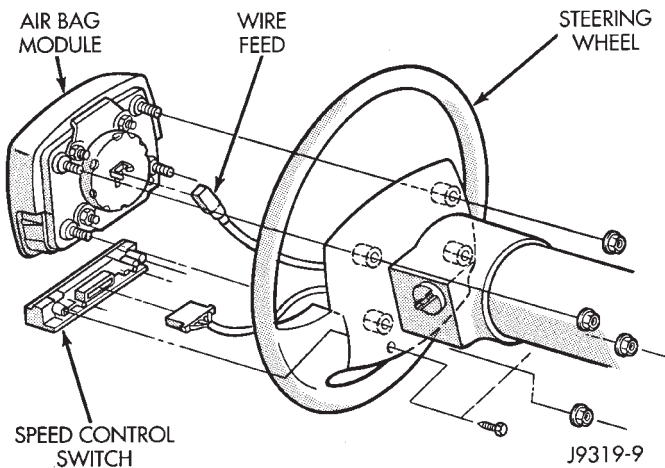

Fig. 1 Air Bag Module
- (1) Disconnect battery negative cable and isolate.
- (2) Remove 4 nuts attaching air bag module from the back side of steering wheel (Fig. 1).